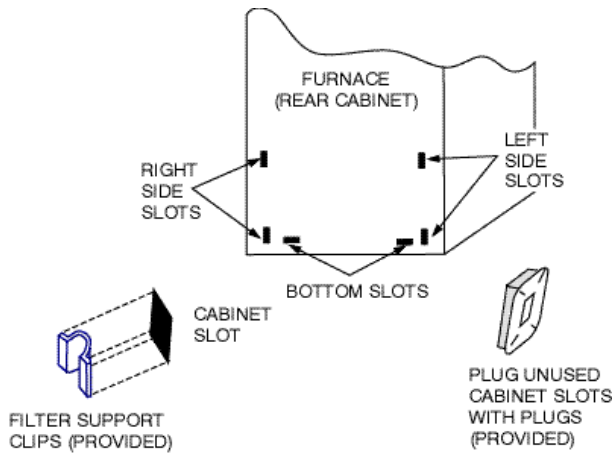

FIGURE 3 : FURNACE FILTER SLOT LOCATIONS
2. Install snap-in retainer clips into the corresponding slots from the outside rear of the cabinet. Refer to Figure 3 on page 10. To prevent cabinet air leaks, install snap-in plugs (provided) into the unused slots at the outside rear of the cabinet.